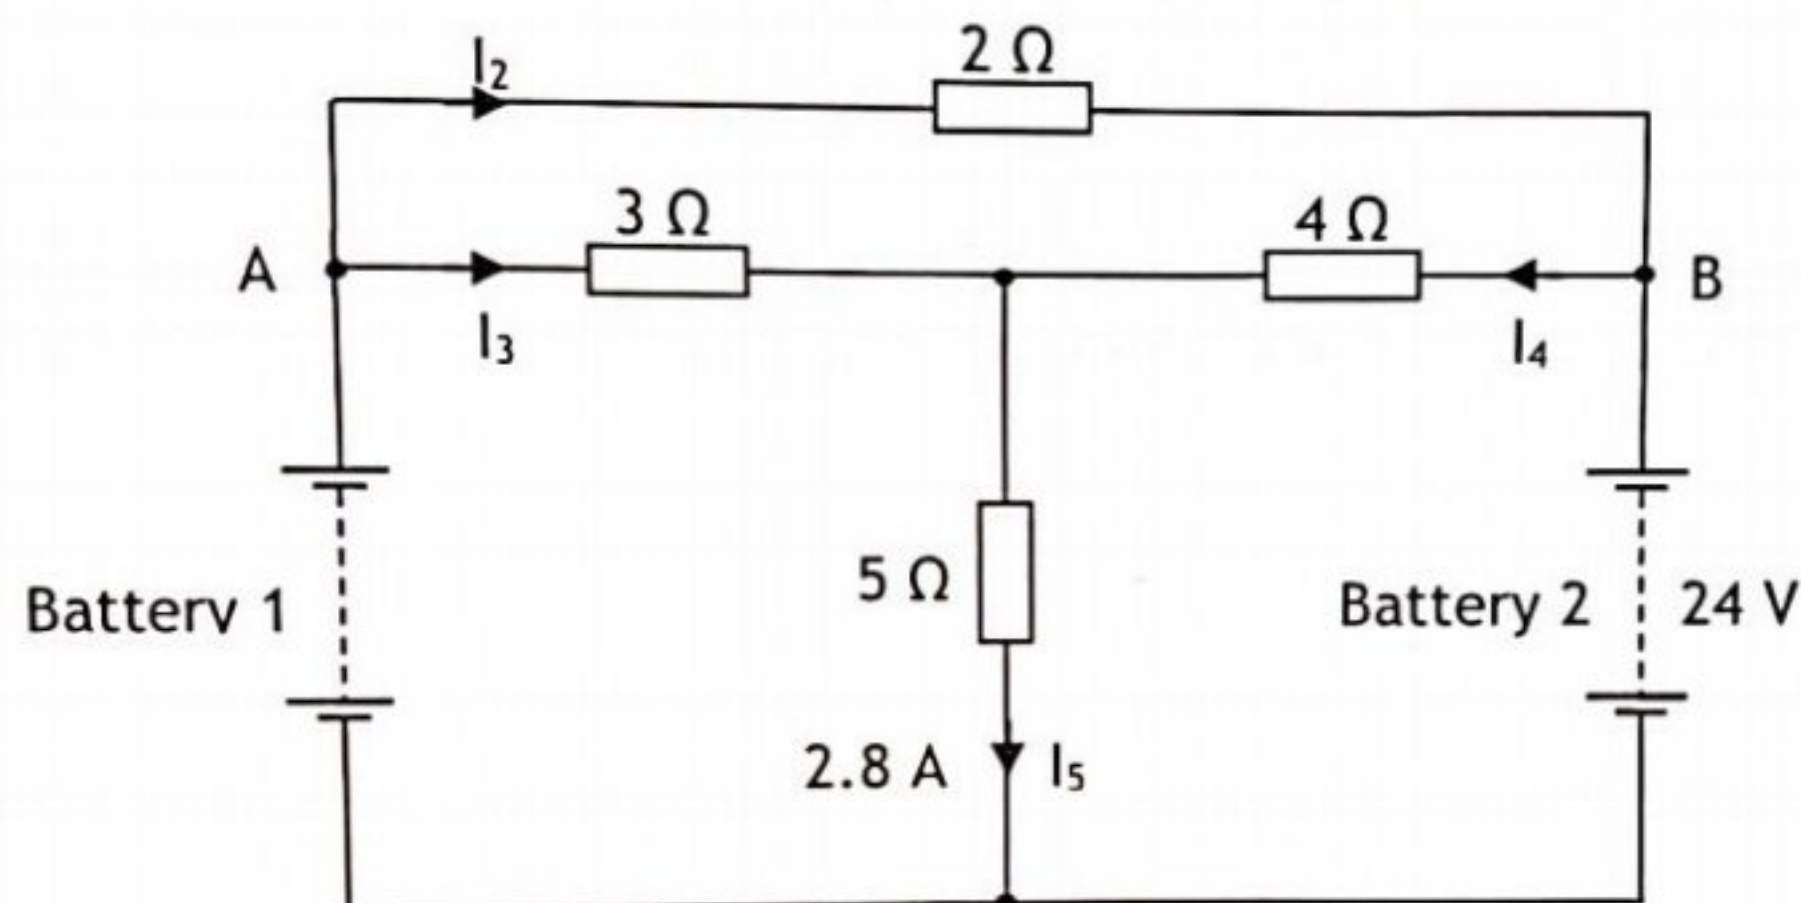

Fig Q1
1. For the circuit shown in Fig Q1, determine EACH of the following:
- (a) the value and direction, positive or negative, of currents I_2 , I_3 and I_4 ; (10)
- (b) the voltage of Battery 1; (2)
- (c) the power delivered by Battery 2. (4)